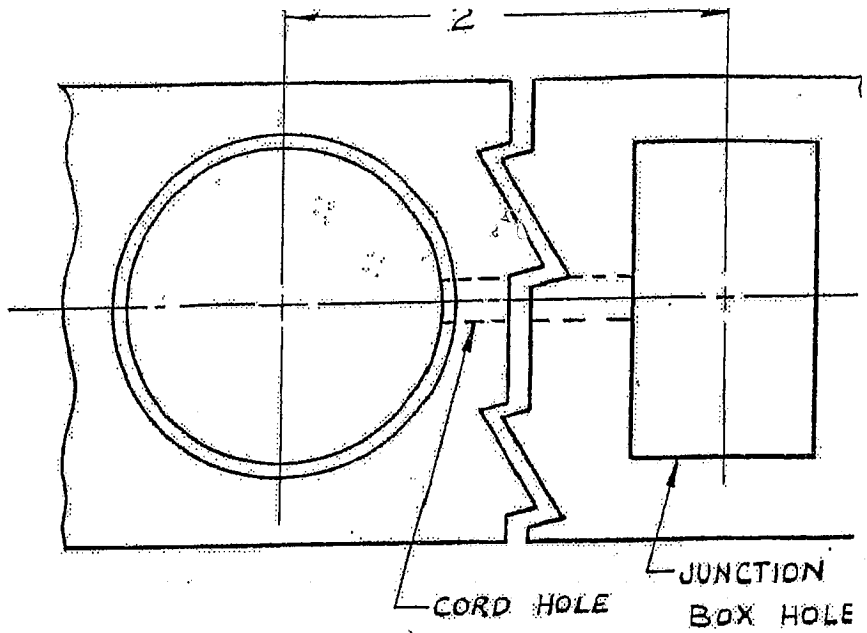

FIG. 2
3. Cut a hole for the junction box into the inside (cold side) of the panel. The size and shape of the hole will suit the junction box to be used. Locate the box within two (2) feet from the PRP (Figure 2).
4. At mid-point in the 3-5/8 inch hole, provide a hole for the cord to pass through the insulation and into the junction box hole (Figure 2).